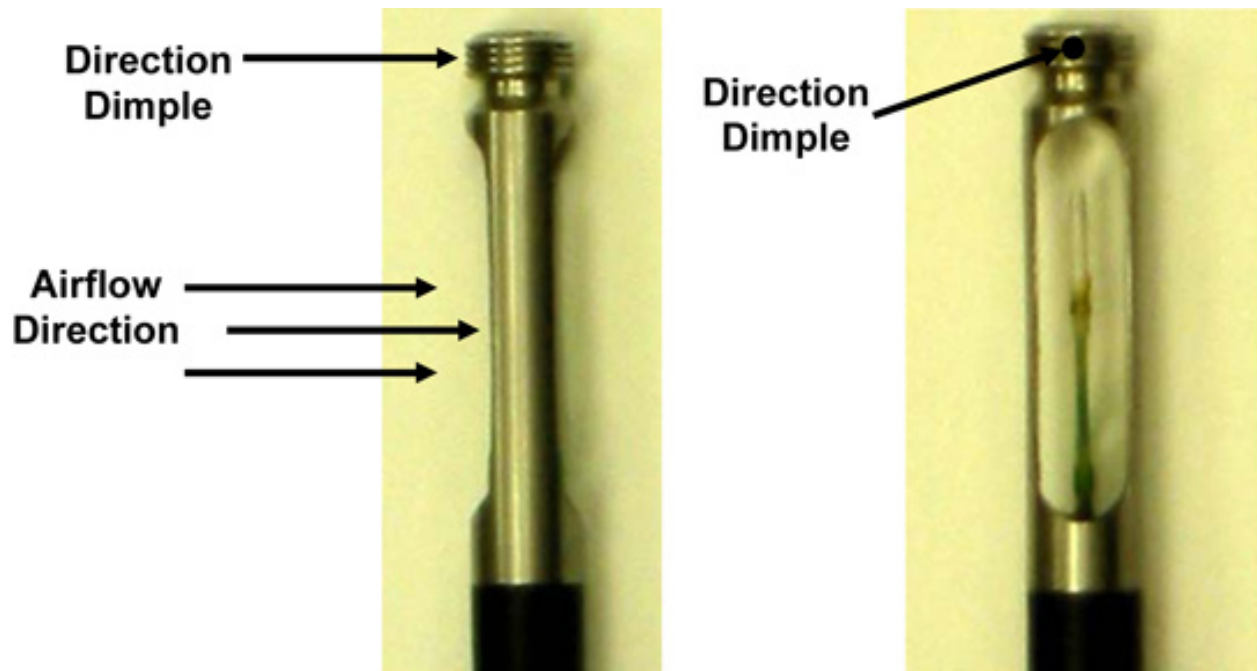

Figure 9. Air Flow measurement Probe.
- 17.4.1 Hold probe tip up against the Node 2 flex duct outlet, perpendicular to airflow, with the direction dimple facing into airstream. Refer to Figure 9 for probe orientation to airflow.